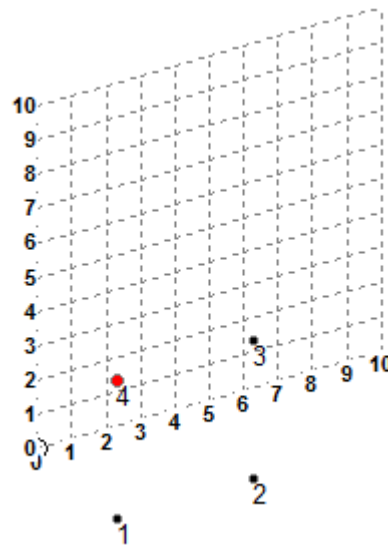

Figure 2-35 Grids moved to the new location
Step 6: In this dialog box, specify **-4** in the **Z** edit box under the **Grid Origin(m)** area and then choose the **OK** button; the grid is moved to a new location, as shown in Figure 2-35.
Step 7: Now, repeat the steps 2 through 4 to create nodes 5, 6, 7, and 8; the solid element is created, refer to Figure 2-35.